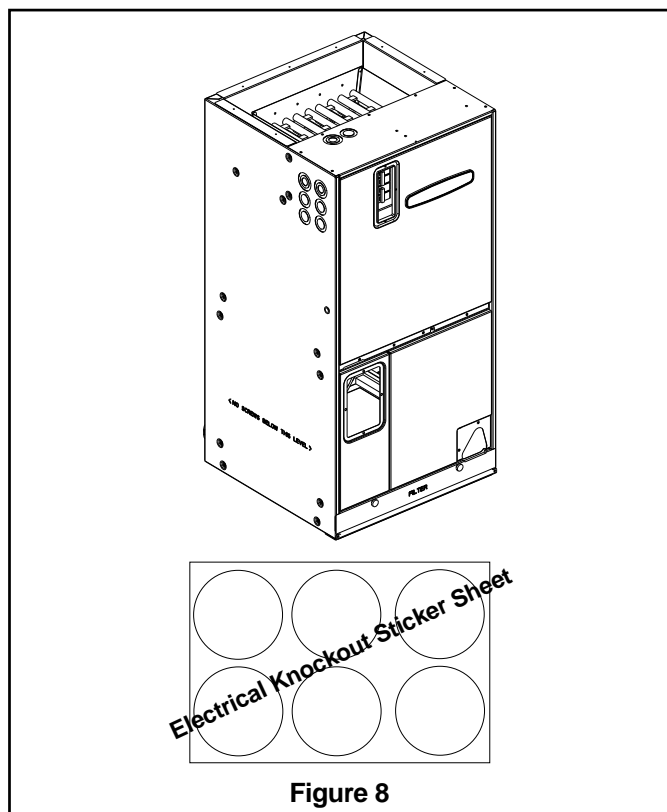

Figure 8
Use 2.5" clear stickers provided to seal all unused electrical knockouts. See Figure 8.
- n. **Openings where field wiring enters the cabinet must be completely sealed.** Location of power entry is shown on the outline drawing. Use 2.5" clear stickers provided to seal all unused electrical knockouts. See Figure 8.
Location of power entry is shown on the outline drawing. Use 2.5" clear stickers provided to seal all unused electrical knockouts. See Figure 8.
- i. **Openings where field wiring enters the cabinet must be completely sealed.** Location of power entry is shown on the outline drawing. Use 2.5" clear stickers provided to seal all unused electrical knockouts. See Figure 8.